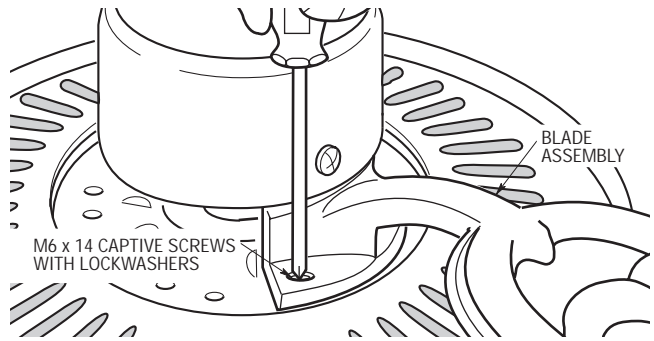

Figure 9
- 11. Loosely attach one blade assembly to the motor hub using two M6 x 14 captive screws with lockwashers (Figure 9). Make sure the screws are NOT tightened. Repeat this procedure for other four blade assemblies.